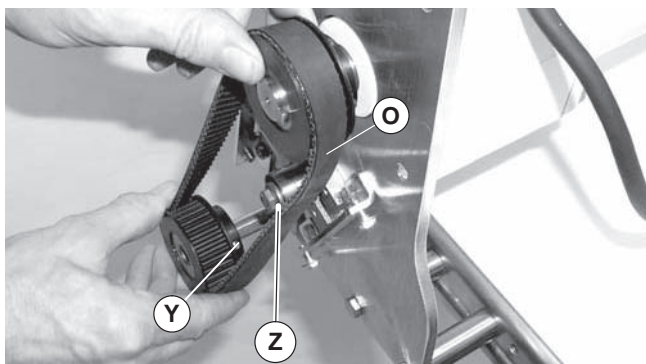

Figure 21
2. Loosen tensioner (Figure 21, item Z).
If timing belt does not slide over pulley flange, loosen two driven pulley set screws (Figure 21, item Y) and remove pulley with belt. For installation, see steps 6 and 7 on page 7.